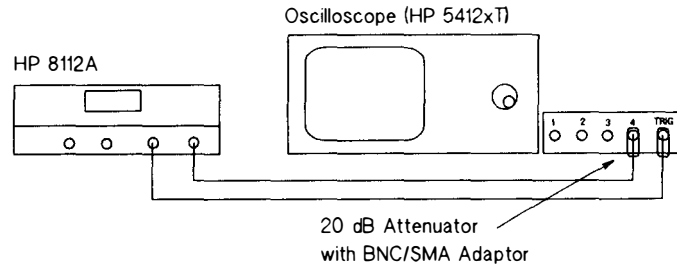

Figure 8-5. Pulse Width Performance Test
2. Connect the HP 8112A and oscilloscope as shown in Figure 8-5.